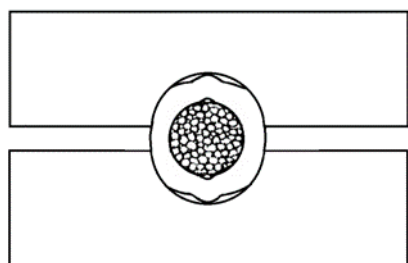

Figure 7: fitting has been rotated 90°. Dies have been closed to first contact fitting.
- Open dies and rotate the fitting 45 degrees to 90 degrees and fully close dies (See Figures 7 and 8). It is only necessary to close until lubricant is squeezed out between die faces.